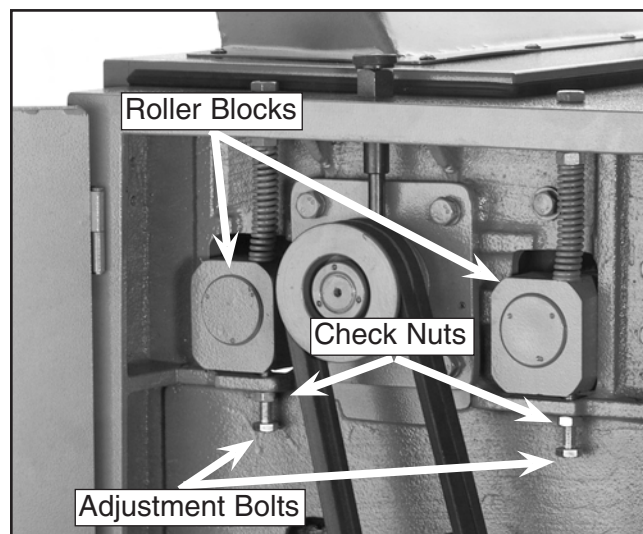

Figure 16. Left side roller controls.
6. Open the left cabinet door. Loosen the check nuts shown in **Figure 16**, and turn the adjustment bolts to raise each block up approximately 1/2" (enough to be above the horizontal plane of bottom dead center of the cutterhead knife/insert).